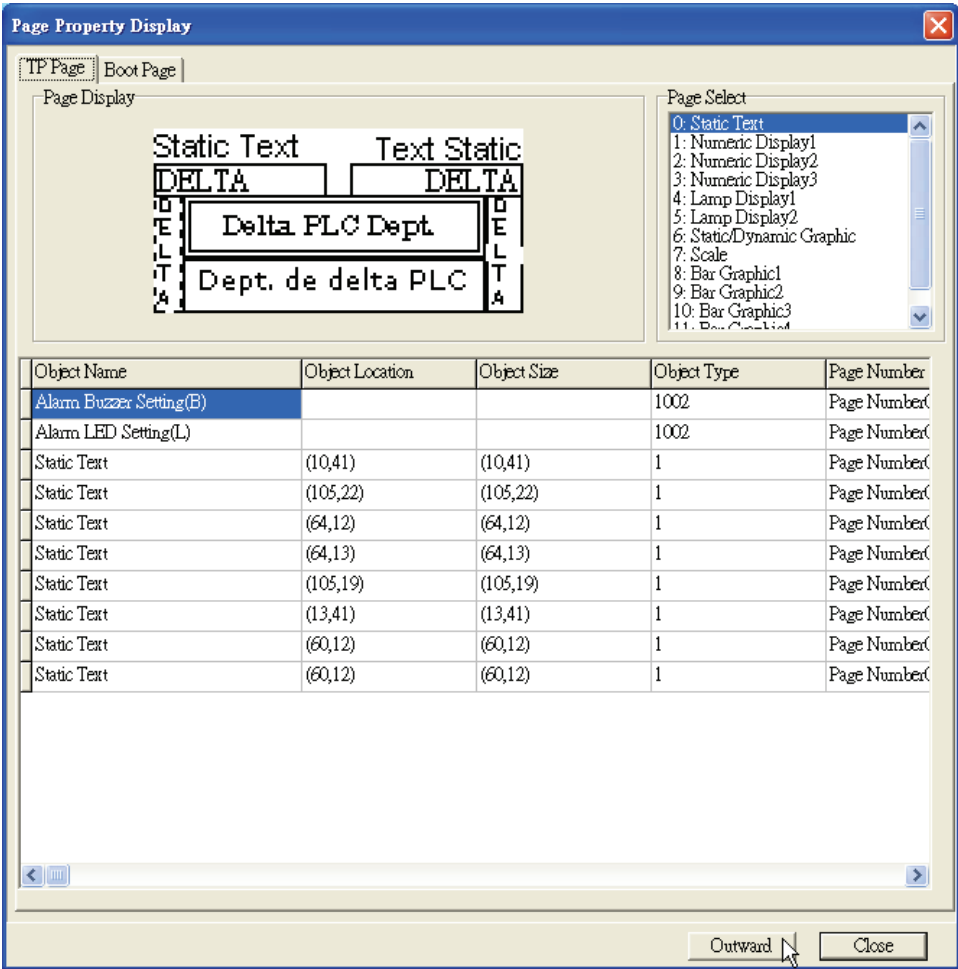

Figure 1-40
Step 2. Select the desired page (Figure 1-40).